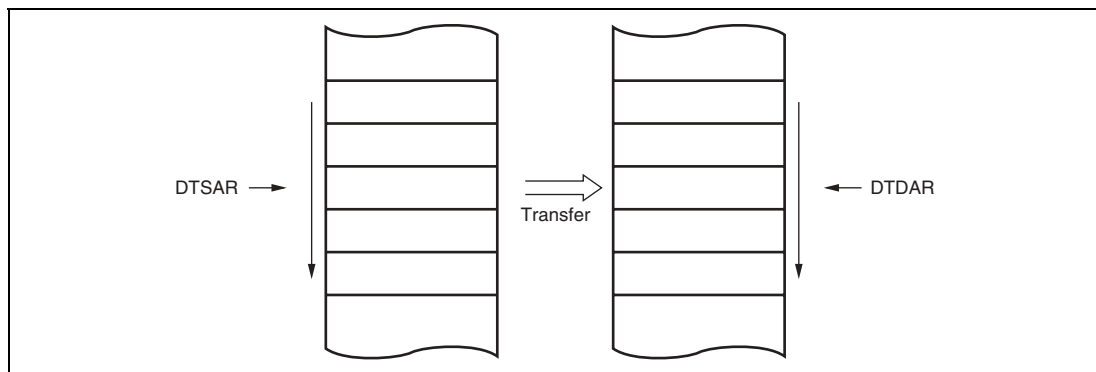

**Figure 8.6 Memory Mapping in Normal Mode**
**Normal Mode:** Performs the transfer of one byte, one word, or one longword for each activation. The total transfer count is 1 to 65536. Once the specified number of transfers have ended, a CPU interrupt can be requested. Table 8.2 lists the register functions in normal mode. Figure 8.6 shows a memory map in normal mode.